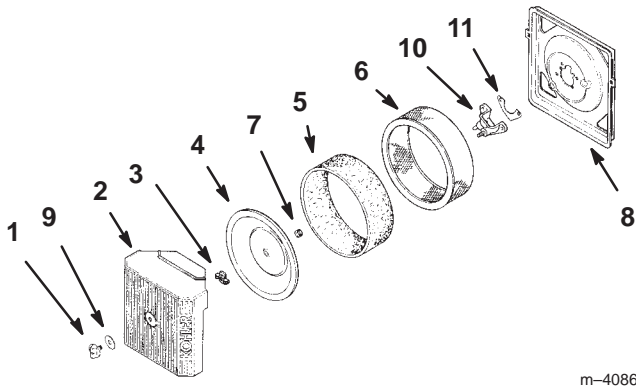

Figure 22
2. Clean around the air cleaner to prevent dirt from getting into the engine and causing damage. Unscrew the knob and remove the air cleaner cover (Fig. 22).
3. Carefully slide the foam element off the paper element (Fig. 22).
4. Unscrew the cover nut and remove the cover and paper element (Fig. 22).
1. Carefully slide the foam element onto the paper air cleaner element (Fig. 22).
2. Place the air cleaner assembly onto the air cleaner base (Fig. 22).
3. Install the air cleaner cover and secure with cover nut (Fig. 22).